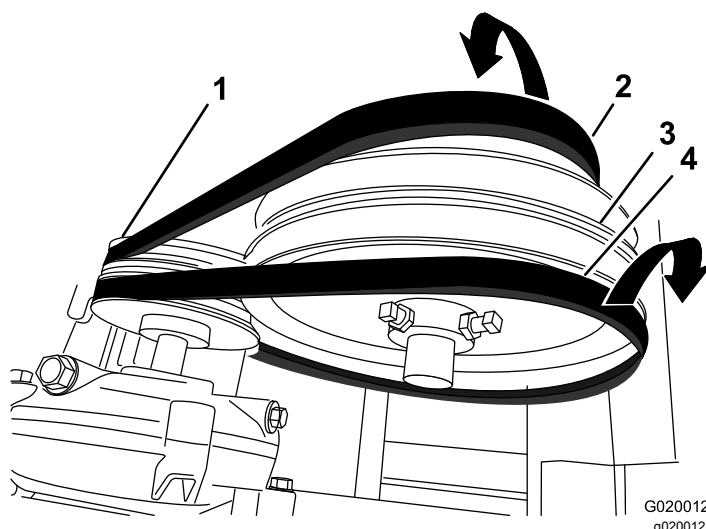

Figure 66
7. Slip the forward belt forward and off the idler pulley (Figure 66).
8. Slip the rear belt rearward and off the idler pulley (Figure 66).